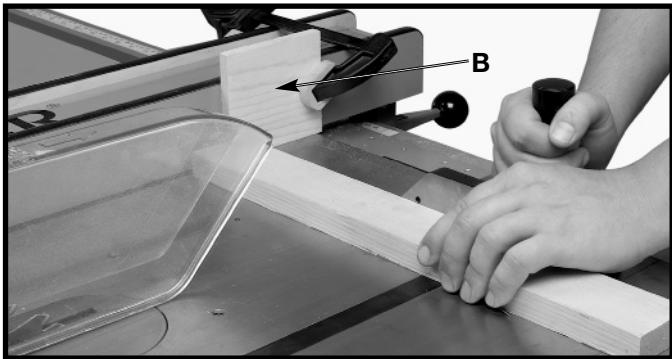

Fig. 44
**CAUTION** When using the block (B) Fig. 44, as a cut-off gage, it is very important that the rear end of the block be positioned so the work piece is clear of the block before it enters the blade.
When cross-cutting a number of pieces to the same length, a **BLOCK OF WOOD (B)**, can be clamped to the fence and used as a cut-off gage as shown in Fig. 44. It is important that this block of wood always be positioned in front of the saw blade as shown. Once the cut-off length is determined, secure the fence and use the miter gage to feed the work into the cut. This block of wood allows the cut-off piece to move freely along the table surface without binding between the fence and the saw blade, thereby lessening the possibility of kickback and injury to the operator.